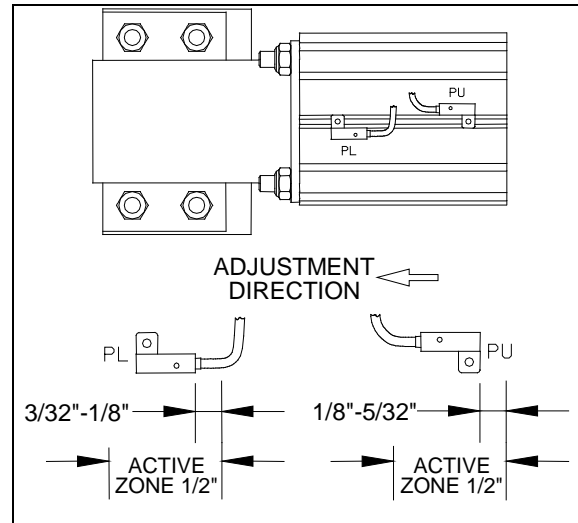

FIGURE 13 : SENSOR SWITCH ADJUSTMENT
2. Slide the pin locked sensor (PL) in the air cylinder groove (figure 13 and figure 53).
3. Place the PL sensor in the zone where it is activated. Move slowly the sensor toward the back side of the cylinder until it is deactivated. Bring back slowly the sensor (adjustment direction) and when it is activated again, continue to move it on 3/32" to 1/8". Tighten the sensor screw (figure 13).
5. Slide the pin unlocked sensor (PU) in the air cylinder groove.
6. Place the PU sensor in the zone where it is activated. Move slowly the sensor toward the back side of the cylinder until it is deactivated. Bring back slowly the sensor (adjustment direction) and when it is activated again, continue to move it on 1/8" to 5/32". Tighten the sensor screw (figure 13).
Note: It is important to adjust the sensor following the adjustment direction (figure 13).